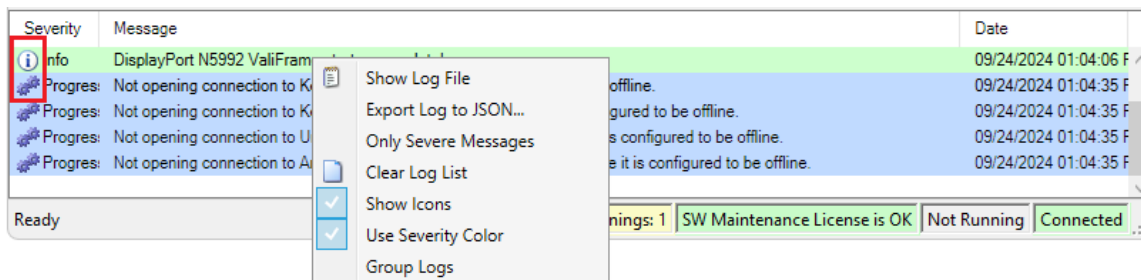

Figure 5-9 Customizing the log list
The **log list** pane at the bottom of the window shows calibration and test status messages (regular progress updates as well as warnings and error messages). Right-clicking the log list pane opens a context menu (Figure 5-9).
- If ‘Show Icons’ is ticked, icons appear at the left of the log list that depend on the function of each message (examples in the red frame in Figure 5-9).